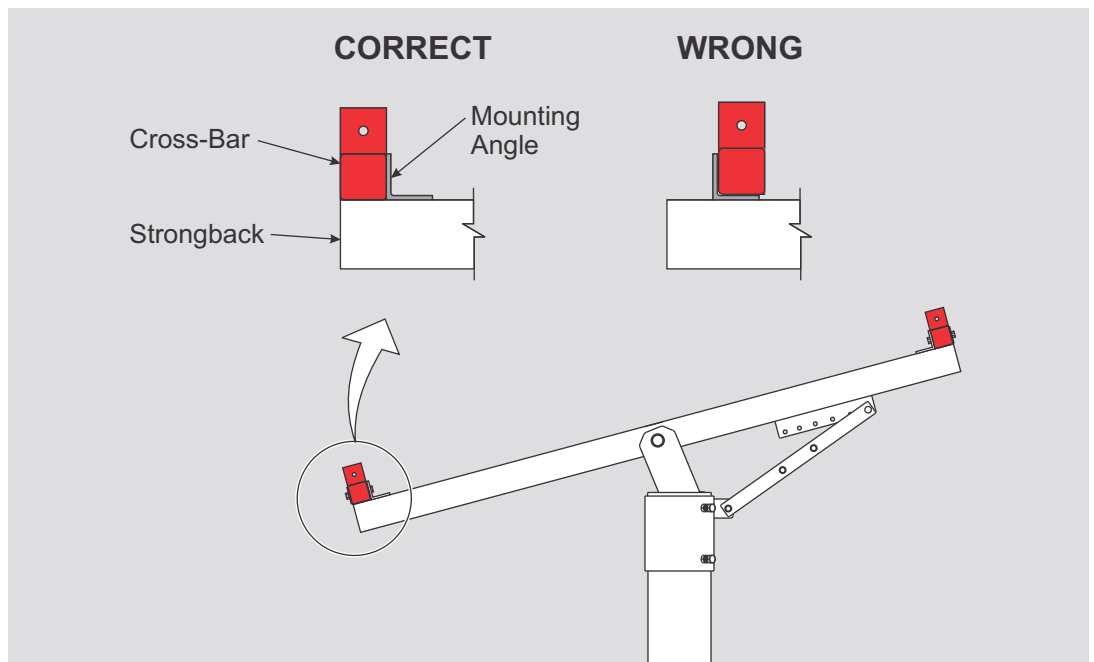
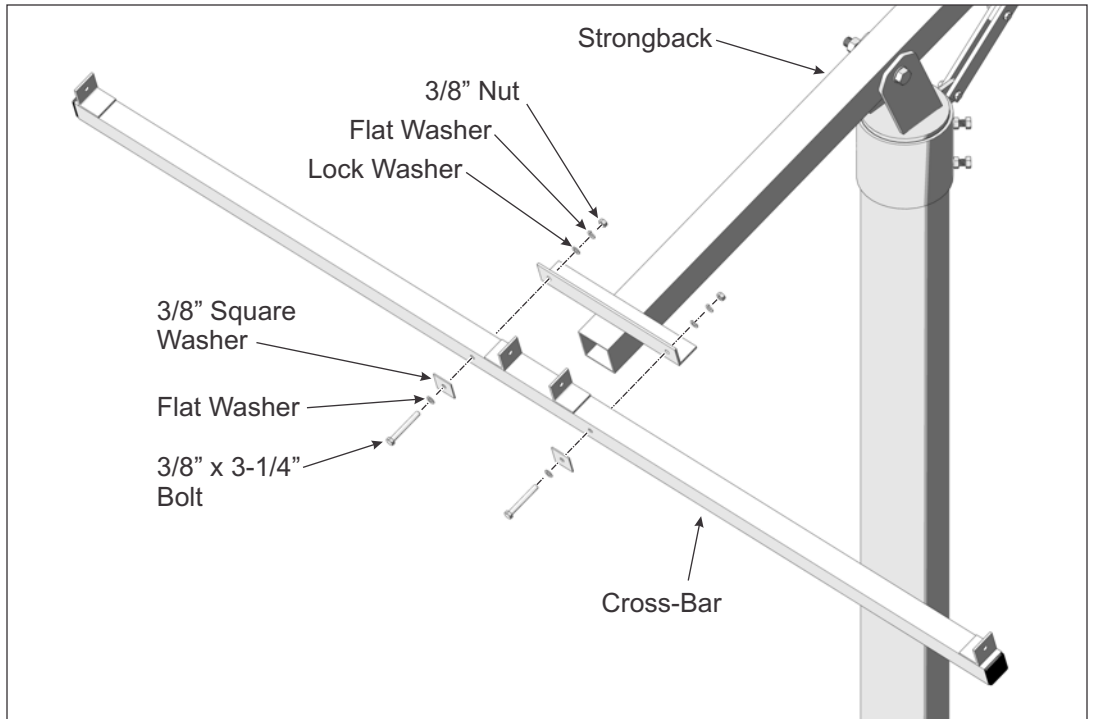

Figure 3-1: Cross-Bar Positioning relative to Mounting Angles
Figure 3-2: Installing Cross-Bars on the Strongback
Cross-Bars are mounted to the outside of the Strongback mounting angles (these are welded to the Strongback); they are not nested into the Mounting Angles. (See Figure 3-1)
- A. Position the Cross-Bar to the outside of the Strongback mounting angle (See Figure 3-1). Align the mounting holes and secure using 3/8” flat and square washers along with the 3/8” x 3-1/4” bolts and lock washer placing the square flat washer against the Cross-Bar. Tighten hardware and **Torque to 30-32 ft.-lbs.** (See Figure 3-2)
- B. Continue in this manner and install the opposite Cross-Bar to the Strongback. Refer to Figure 3-1 as needed for proper positioning.